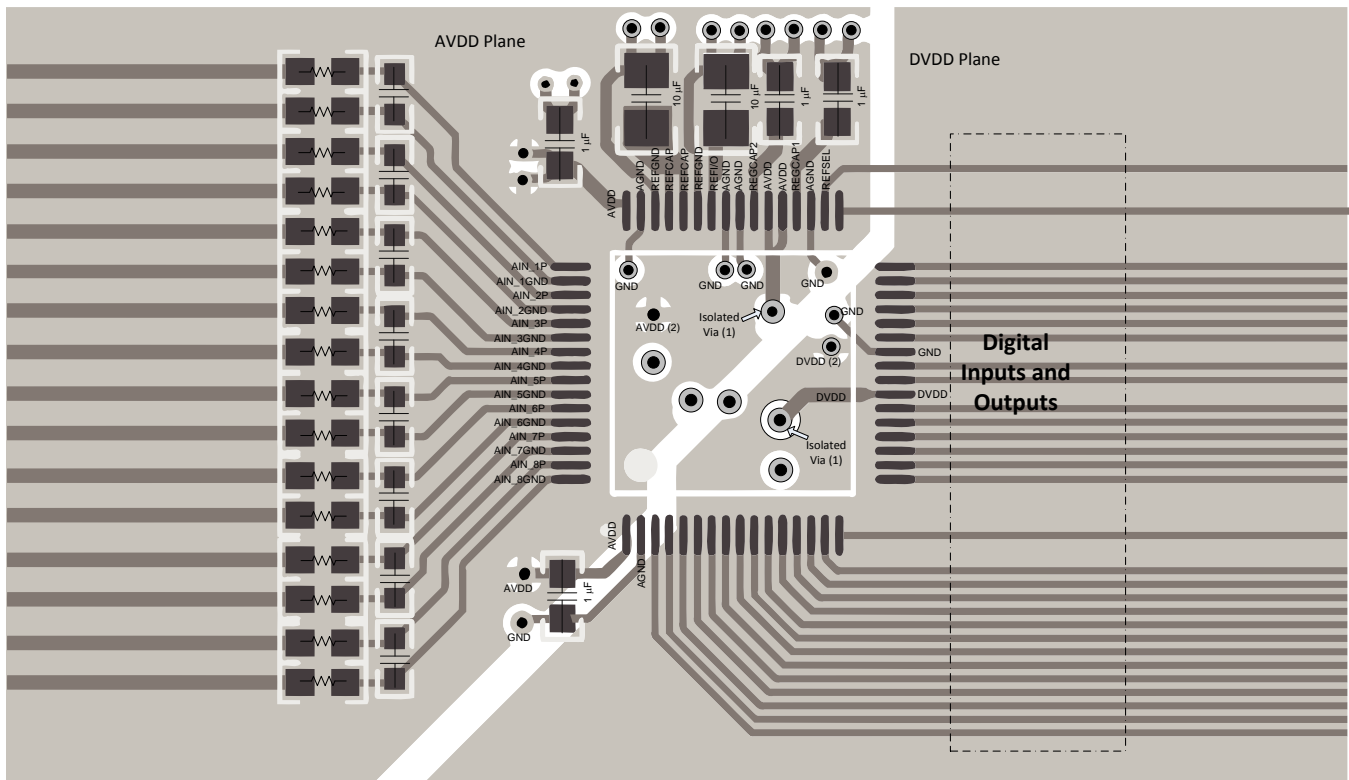
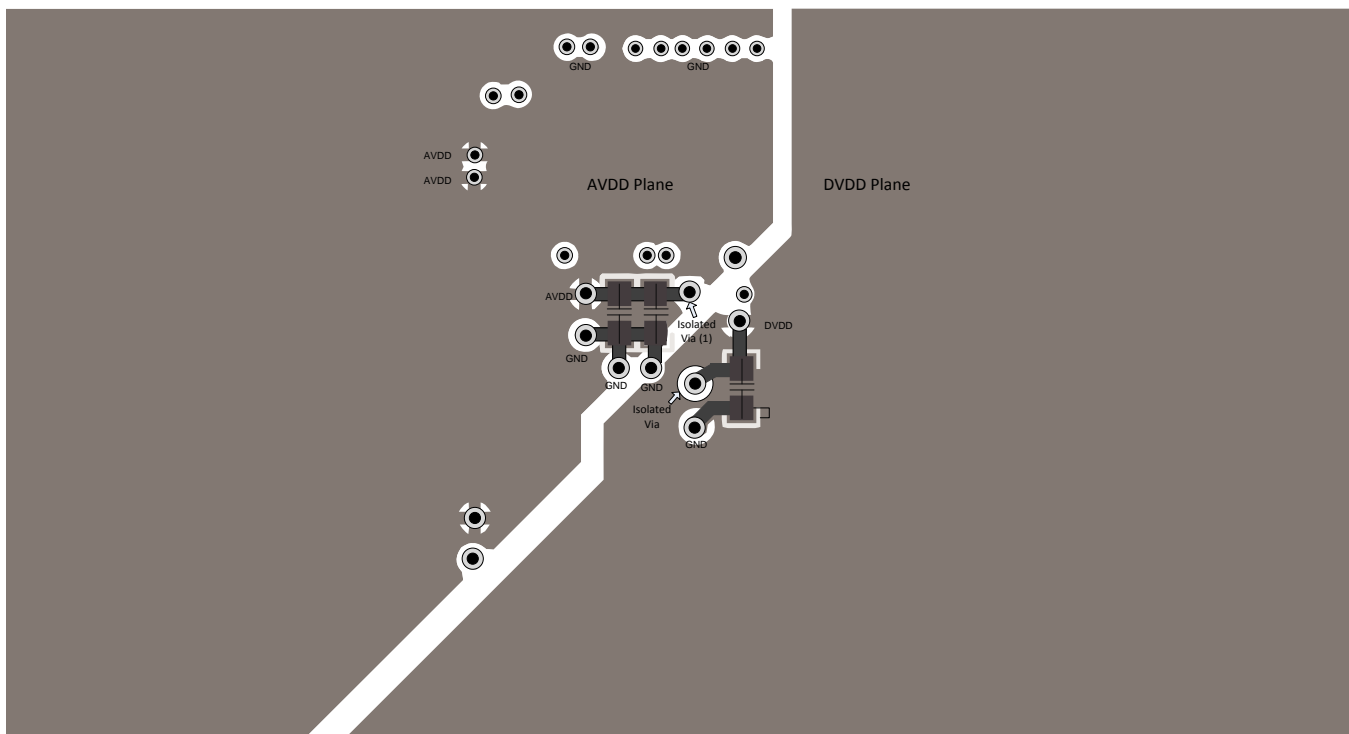

Figure 89. Top Layer Layout
Figure 90. Bottom Layer Layout
Figure 89 and Figure 90 illustrate a PCB layout example for the ADS8588S.
- Power sources to the ADS8588S must be clean and well-bypassed. As a result of dynamic currents during conversion, each AVDD must have a decoupling capacitor to keep the supply voltage stable. Use wide traces or a dedicated analog supply plane to minimize trace inductance and reduce glitches. Using a 1- μ F, X7R-grade, 0603-size ceramic capacitor is recommended in close proximity to each analog (AVDD) supply pins. Bypass capacitors for AVDD pins 1 and 48 are located on the top layer; see Figure 89. AVDD supply pins 37 and 38 are connected to bypass capacitors in the bottom layer using an isolated via (1); see Figure 90. A separate via (2) is used to connect the bypass capacitor to the AVDD plane.
- For decoupling the digital (DVDD) supply pin, a 1- μ F, X7R-grade, 0603-size ceramic capacitor is recommended. The DVDD bypass capacitor is located in the bottom layer; see Figure 90.
Figure 89 and Figure 90 illustrate a recommended layout for the ADS8588S along with proper decoupling and reference capacitor placement and connections.